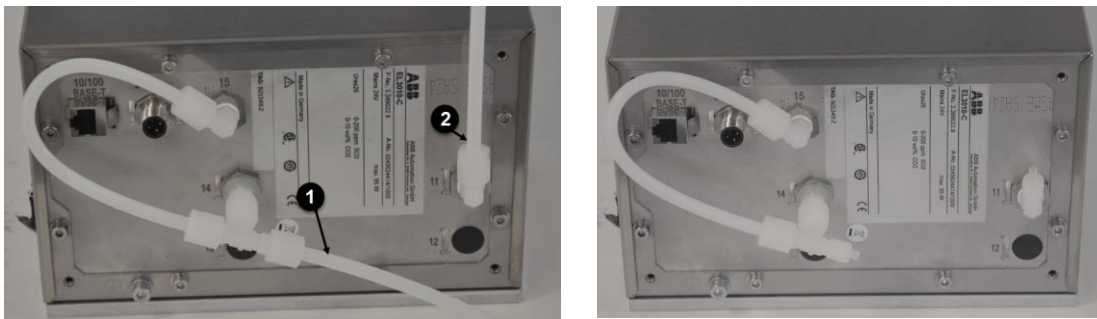

Figure 10-1 Analyzer hose connections
- Unmount the gas hose (1) and (2) from the fittings and tightly seal the gas ports. See Figure 10-1